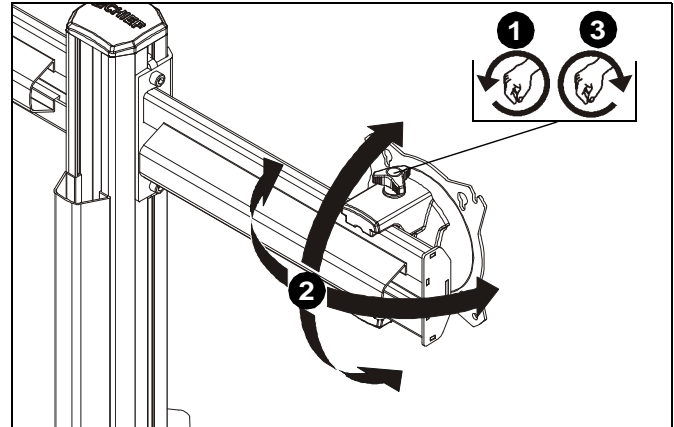

Figure 13
- Loosen knob on top of faceplate assembly. (See Figure 13)
- Adjust pitch, roll and/or yaw as desired. (See Figure 13)
- Tighten knob to secure desired faceplate position. (See Figure 13)